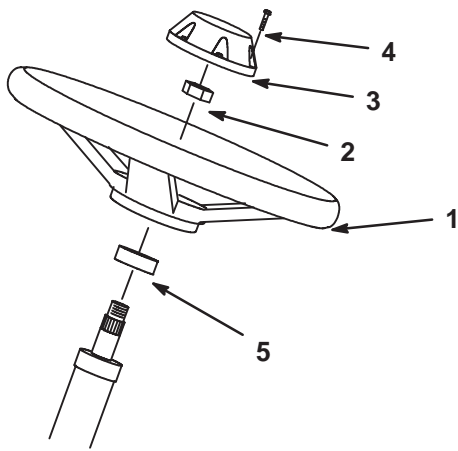

Figure 5
2. Remove jam nut from steering shaft. Slide foam seal and steering wheel onto steering shaft (Fig. 5).
- Install cap to steering wheel with screw (Fig. 5).